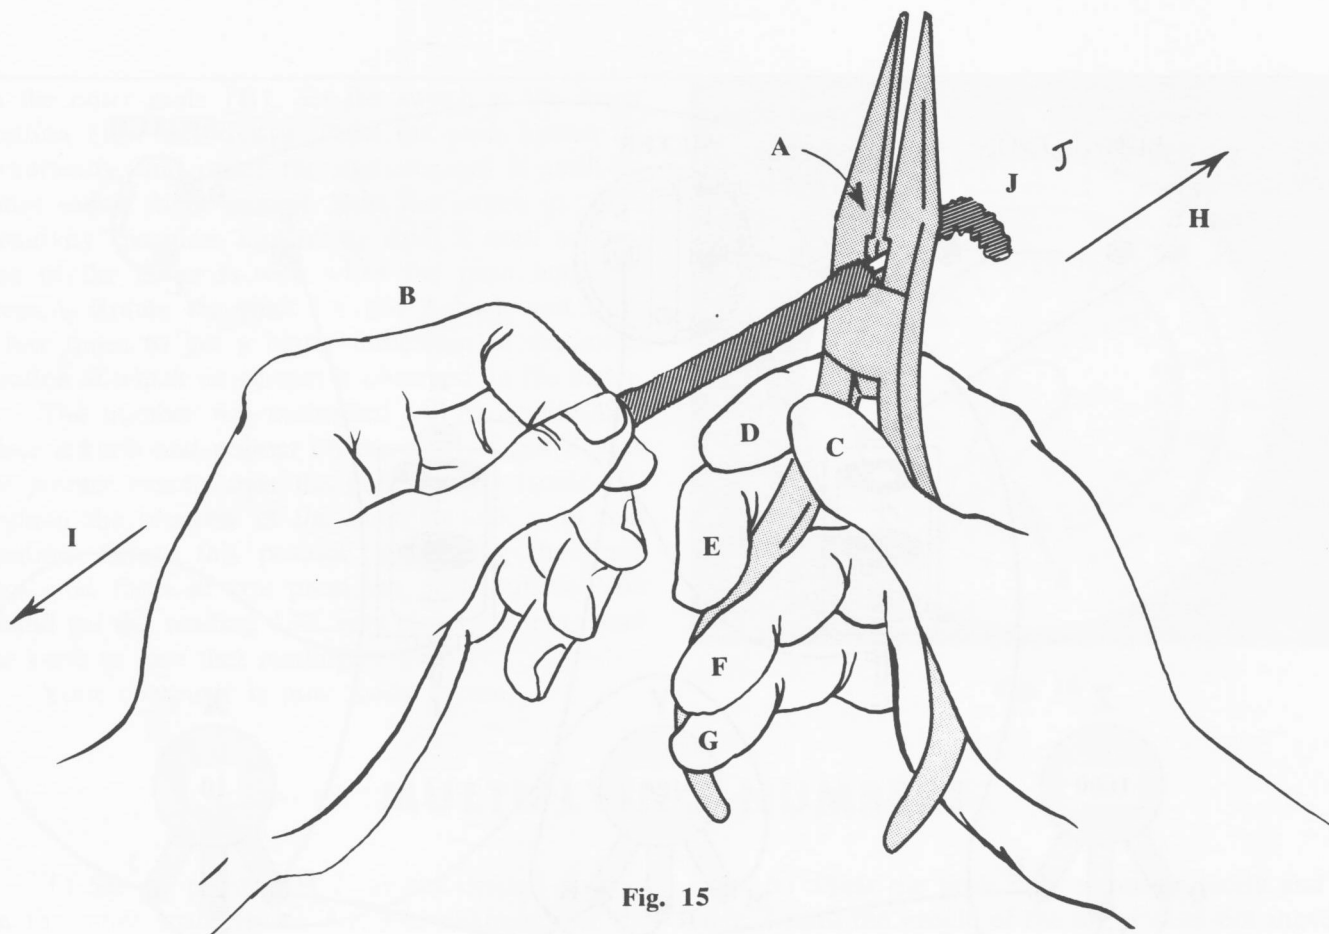

Fig. 15
Hold the end of the wire in one hand and the pliers in the other, as shown in Fig. 15. Insert the end of the wire into the cutting edge of the pliers at A. Hold the wire with one hand (B). The thumb of the other hand presses outward against the edge of the handle at C. The fingers pull the handle of the pliers inward at D and E. The other fingers push outward at F and G. The combined outward and inward pulls may then be exerted to control the cutting action to any desired degree. The insulation must be cut but not too deeply,